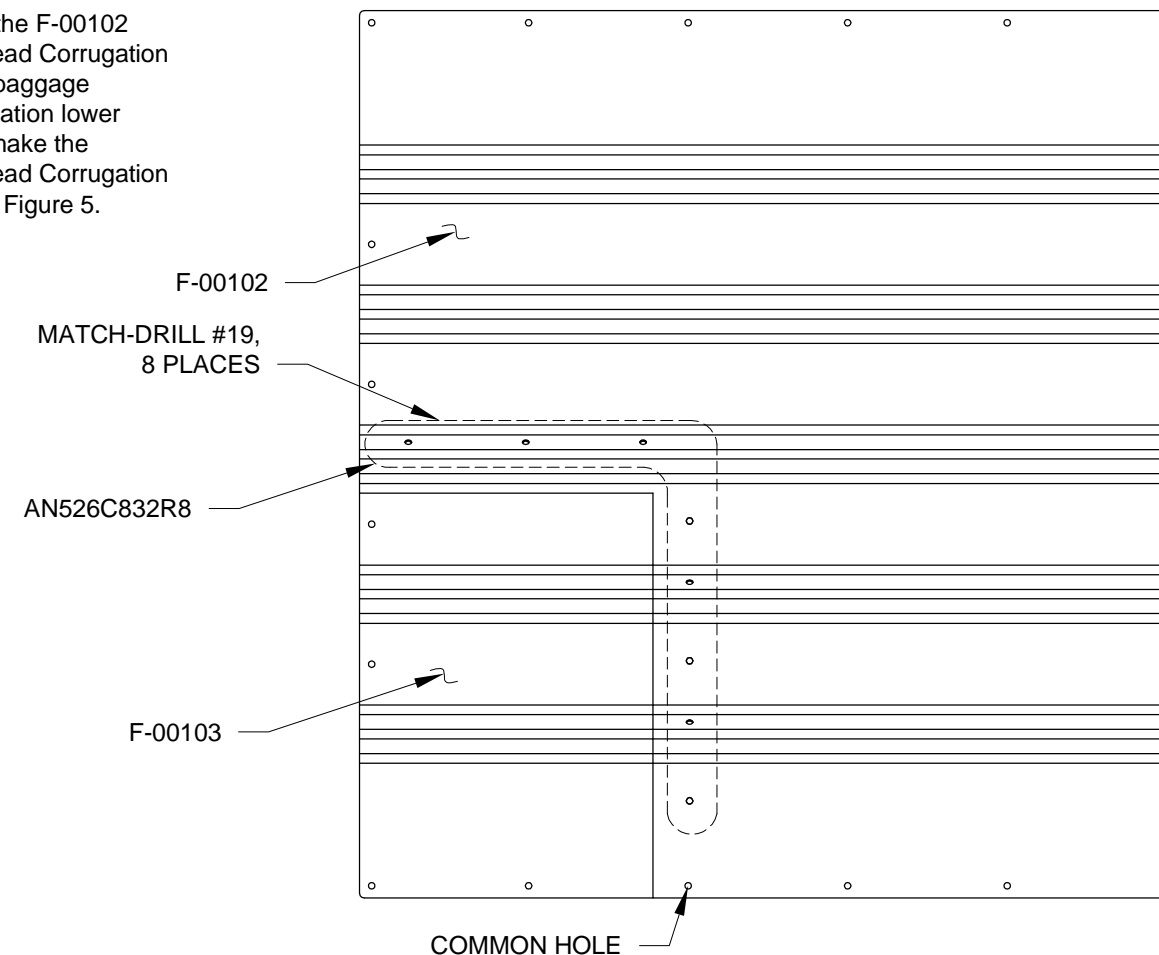

FIGURE 5: MATING THE BAGGAGE BULKHEAD CORRUGATIONS
Step 8: Align the common holes and edges of the F-00102 Baggage Bulkhead Corrugation Upper and F-00103 Baggage Bulkhead Corrugation Lower. See Figure 5.
Match-Drill #19 the holes indicated in Figure 5.
Step 11: Install the F-00102 Baggage Bulkhead Corrugation Upper over the baggage bulkhead corrugation lower with screws to make the Baggage Bulkhead Corrugation Assembly. See Figure 5.